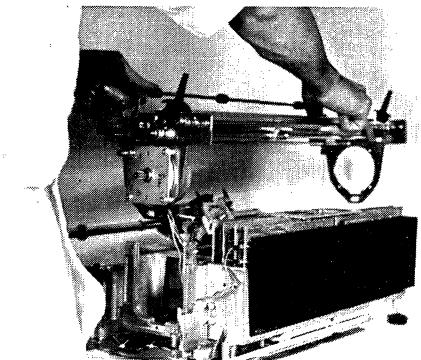

Figure 5-8 CARRIER SYSTEMS REMOVAL - C
6. Carefully lift the Carrier Subassembly, which includes the paper feed drive motor, free of the printer's main frame as shown in Figure 5-8. Be sure the motor's wires are free and not caught in the wire bundle.
- Carefully lower the Carrier Subassembly into position on the printer's main frame. Refer to Figure 5-8.